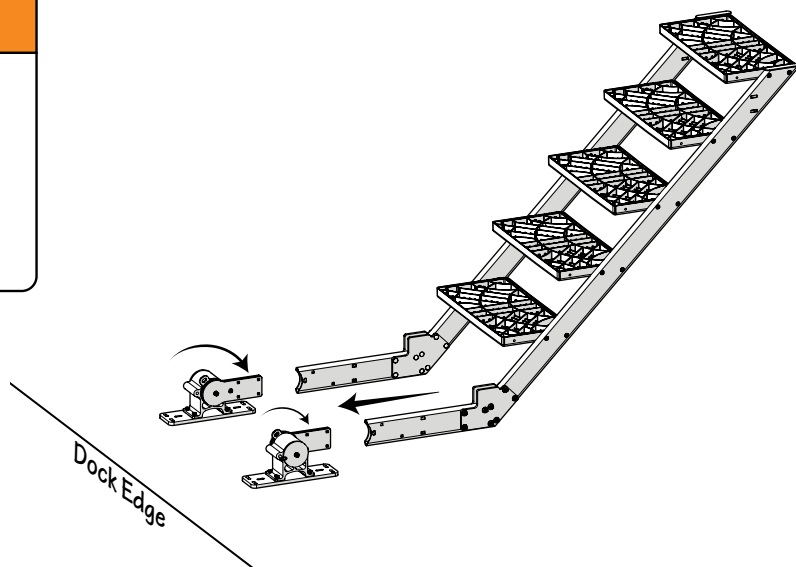

Fig. 7-1
- Position the assembled Nauti Dock Ladder upside down with the upper end frames placed next to the base/housing as shown in Fig. 7-1.